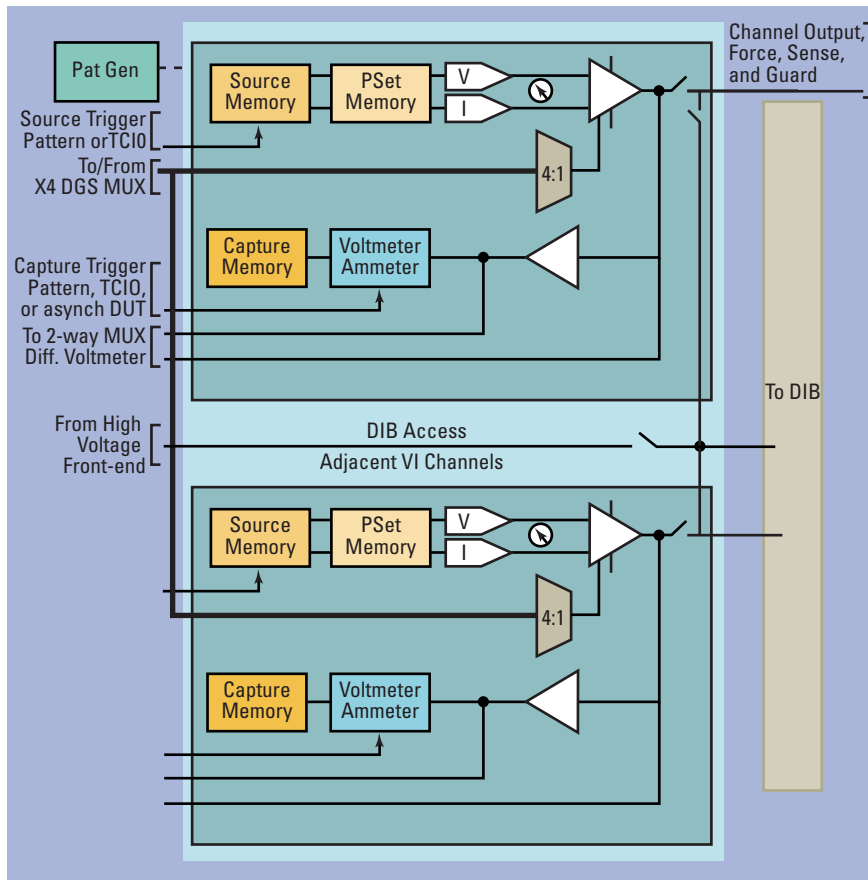
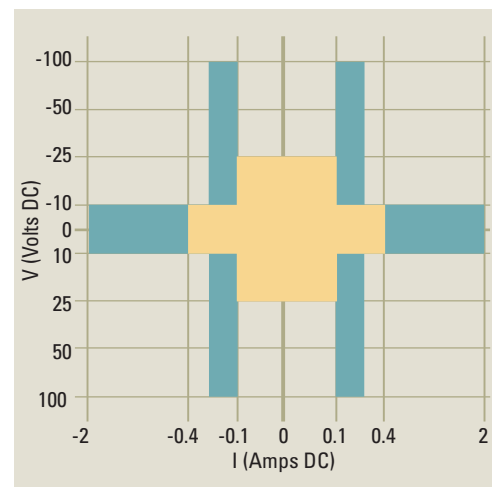

Figure 5-9: DC75 instrument block diagram
Figure 5-10: DC75 compliance points
The DC75 instrument has 4 V/I channels, each of which has a 2.5K sample Arbitrary Waveform Generator (AWG) for voltage or current modulation, and its own meter with 512 sample capture memory. There are two High Voltage Front-end subsystems on the instrument, as well as two, Dual Time Stampers. The DC75 is a ground-referenced V/I. Four (4) Digital Ground Sense (DGS) lines are provided per DC75 instrument to support multi-site testing, with all measurements referenced to the DUT. Table 5-3 summarizes the key DC75 instrument specifications. Figure 5-9 depicts a block diagram of the DC75 instrument. Figure 5-10 depicts the compliance points of the DC75 instrument.